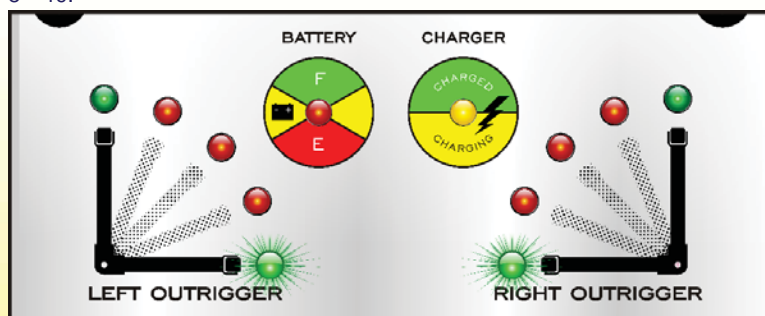

Figure 8 Outriggers Fully Retracted LED Indicators
**Outrigger Position LEDs** – The position of each deployable outrigger is indicated by 5 LEDs (2 green and 3 red LEDs). A green LED indicates the outrigger is in either the fully retracted or the fully extended position. The red LEDs indicate an outrigger is moving between positions, is stopped in between positions or has struck an obstruction. The various outrigger positions with the associated LED indications are illustrated below in Figures 8 – 19.